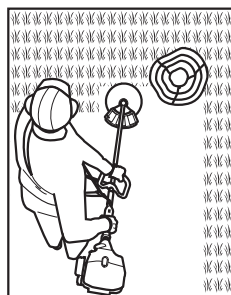

Fig. 19g
12). Pay special attention when performing the work close to trees and bushes. The cutting heads could damage sensitive bark, and damage fence posts. (See Fig. 19g)